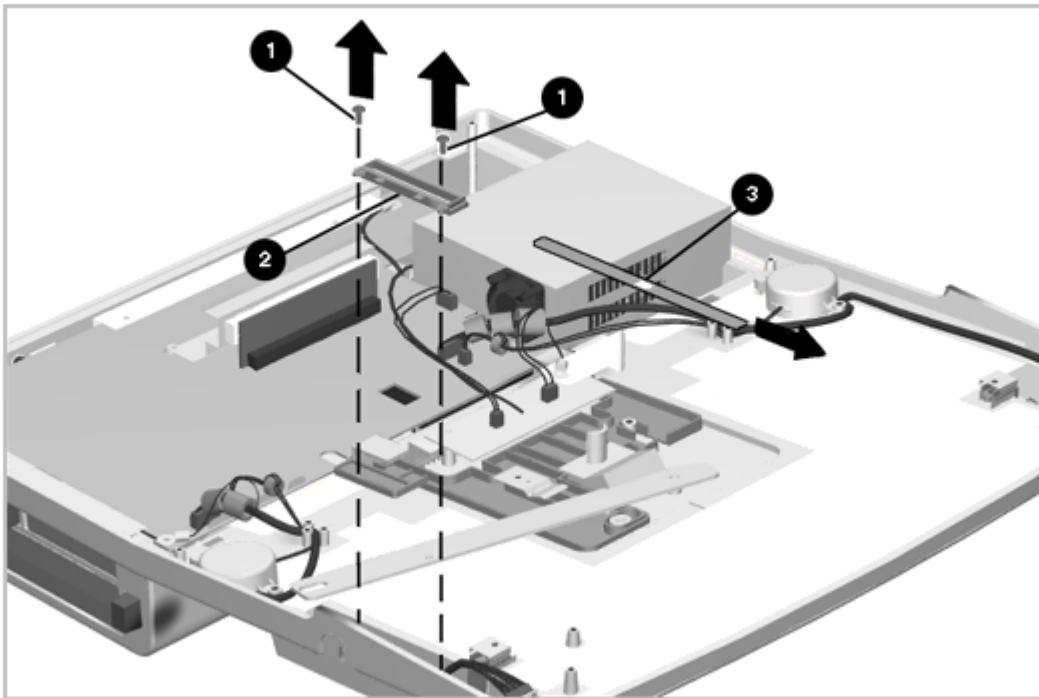

Figure 6-37. Removing the Docking Lever Cover
5. Remove the screws [1] and lift out the docking lever cover [2] (Figure 6-37).
6. Remove the docking lever cover insert [3] as shown in Figure 6-37.